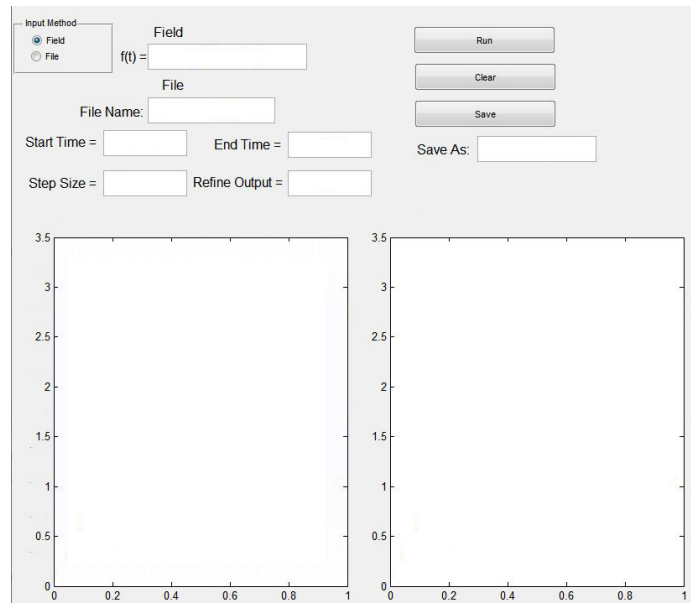

Figure 7: GUI for the black box
6. Open up the GUI by typing *blackBox* into the Command Window. The GUI will appear as seen in Figure 7.